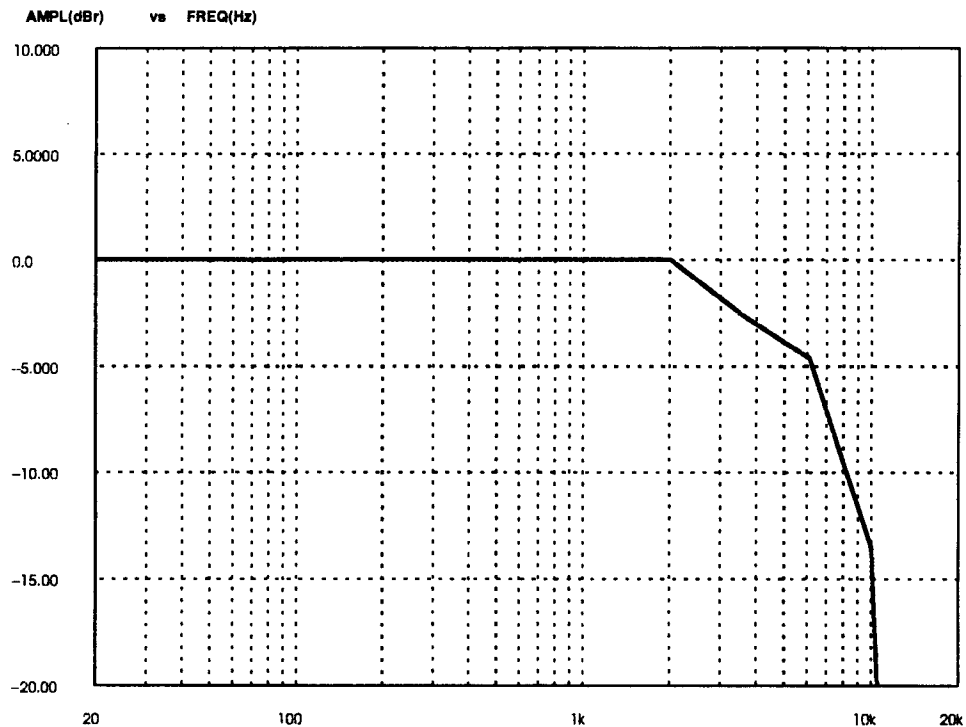

Figure 4-1: CAM-1 Limiting Curve
- Verify that the limiting action is as shown in Figure 4-1.